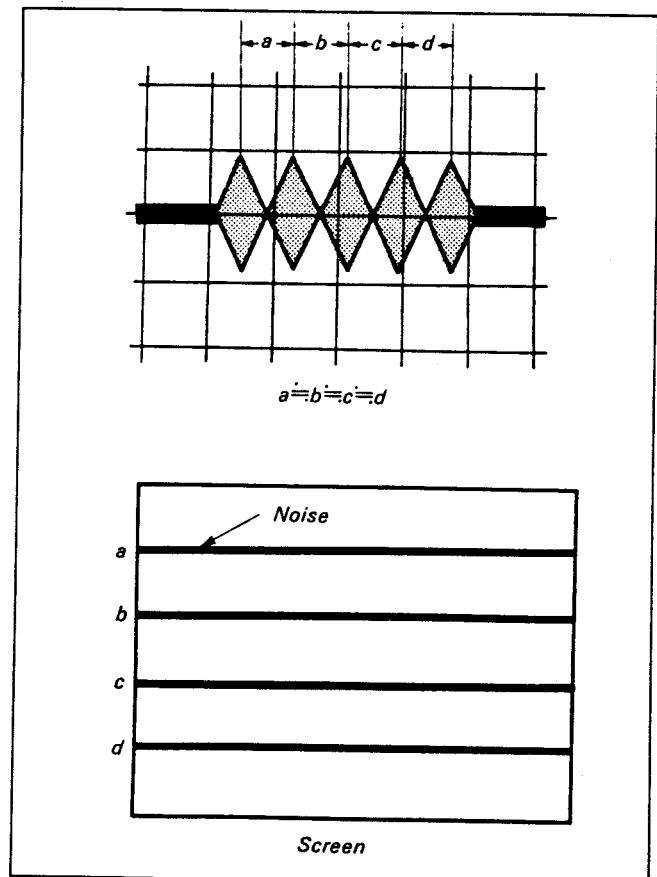

Fig. 4-20
- 6) Set up the REV mode and confirm that the waveform noise pitches are uniform. If not adjust as follows. (Fig. 4-20)